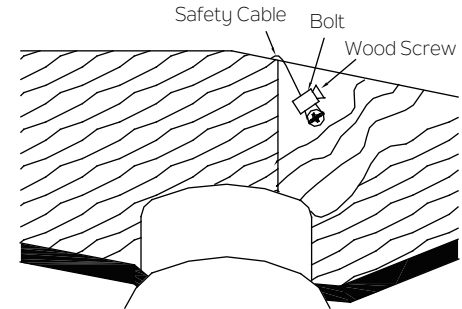

Fig.11
Step 2. Insert the safety cable through the mounting bracket and one of the holes in the outlet box into the ceiling. Adjust the length of the safety cable to reach the screw and washers by pulling the extra cable through the cable clamp until the overall length is correct, put the end of the cable back through the cable clamp, forming a loop at the end of the cable. Tighten the cable clamp securely. Now, put the loop in the end of the safety cable over the wood screw and under the washer. Tighten the wood screw securely. (Fig. 11)